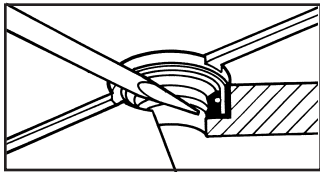

FIG. 6
1. Insert screwdriver blade under shaft seal and pry the seal from the housing being careful not to damage the walls or face of the trap. (FIG. 6)